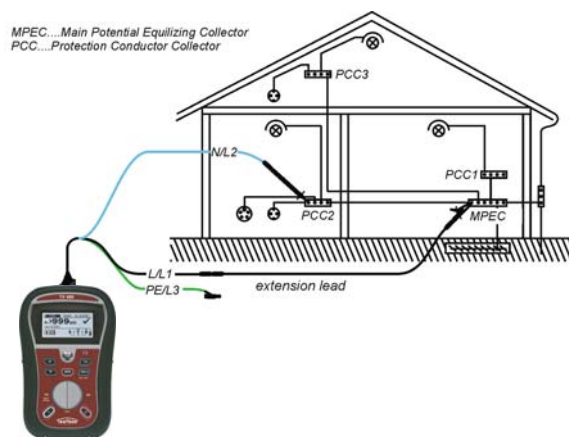

Figure 5.9: Connection of 3-wire test lead plus optional extension lead
- ❑ **Connect** the test leads to the appropriate PE wiring (see *figure 5.9*).